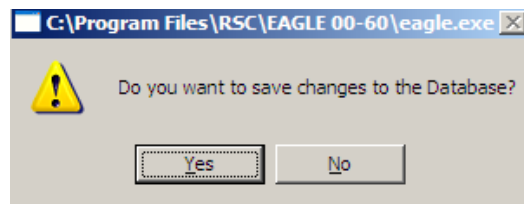

Figure 6. Save to Database Dialog Box.
- Choose the **Yes** button on the Save to Database Dialog Box (Figure 6) to complete the save.